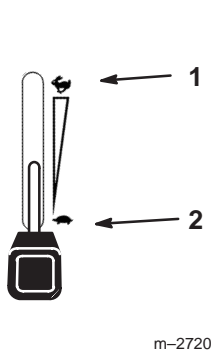

Figure 5
5. Move the throttle control to the “FAST” position before starting a cold engine (Fig. 5).
- Move the throttle lever to “SLOW” (Fig. 5).